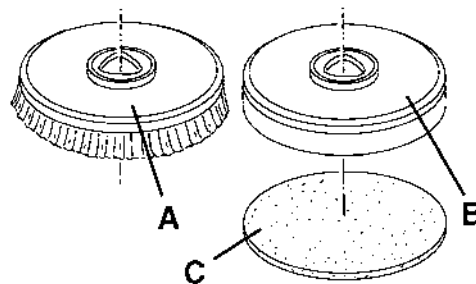

Figure 2
1. According to the kind of cleaning to be performed, the machine can be equipped either with brushes (A, Fig. 2) or pad-holders (B) with pads (C) together with the appropriate deck.
2. Insert the ignition key (80) and turn it to "I".
3. Turn the speed adjuster (4) to idle by turning it counter-clockwise.
4. Place the brushes (A) or the pad-holders (B) under the deck (18).
5. Lower the deck on the brushes/pad-holders by pressing the switch (71).
6. To engage the brushes/pad-holders, press the drive paddle (3) and then release it. If necessary, repeat the procedure until the brushes/pad-holders are engaged.